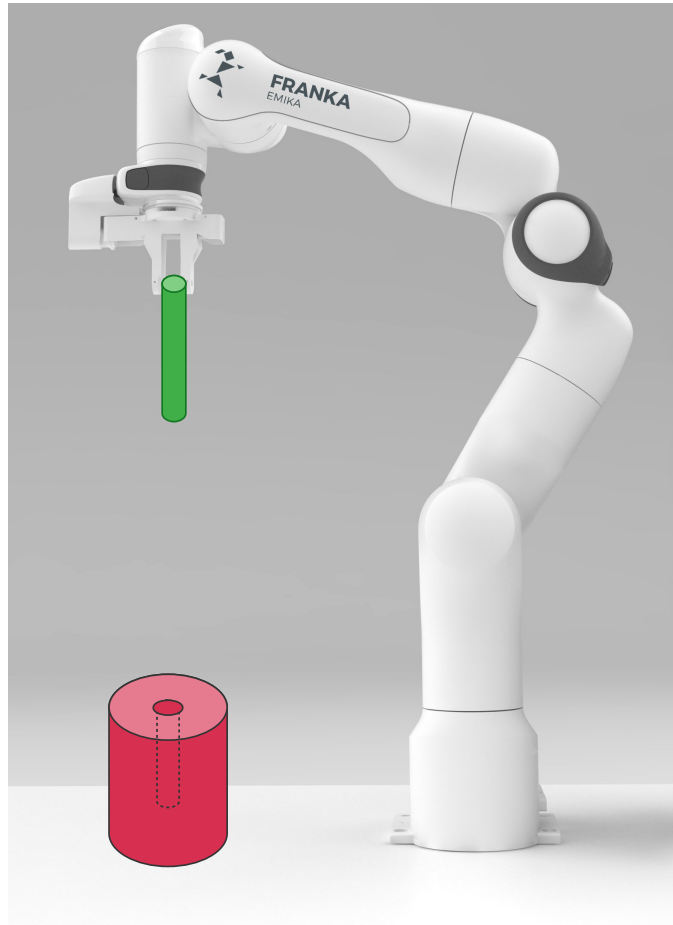

Figure 3: The setup for Task 3
**Task 3** In the third task the robot will be setup with a circular peg held in the gripper and a hole of the size of the peg will be located on the table as visualized in Figure 3. The robot should be programmed to find the hole without directly inputting the position of the hole.